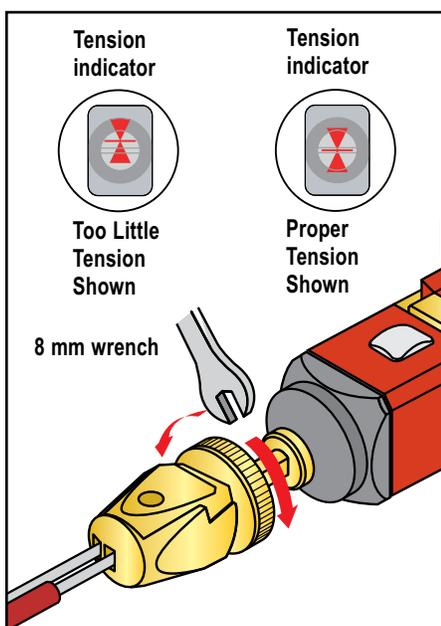

Figure 4. Applying tension to the rope (models RP-LS42F-75LE and RP-LS42F-75LF)
After the rope span components are installed, apply tension to the rope until the arrows in the tensioning indicator are centered on the line in the indicator window (see Figure 4). This indicates sufficient rope tension. (Contacts 21/22 and 41/42 will close.)
**and RP-LS42F-75LF:** Turn the shaft of the switch using an 8 mm wrench as shown in Figure 4, until the arrows are centered.